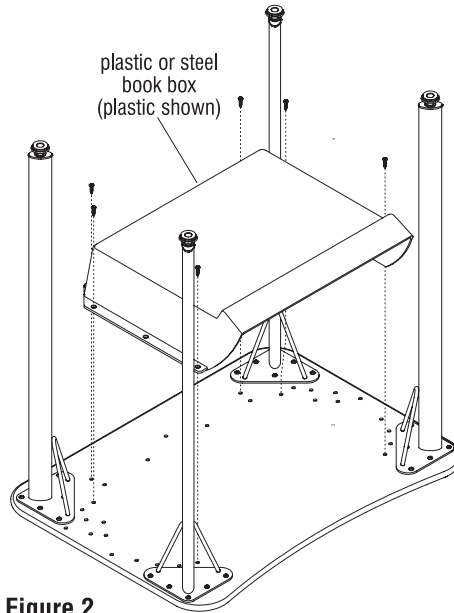

Figure 2
1. Carefully turn the desktop upside down on a soft, protective surface (Figure 2).
2. Position the plastic book box, as illustrated onto the underside of the desktop. Align book box to pre-drilled holes in desktop. Using the appropriate screws (See Details A & B, page 1), secure the plastic book box to the desktop using all book box mounting holes. Do not over-tighten screws (Figure 2).